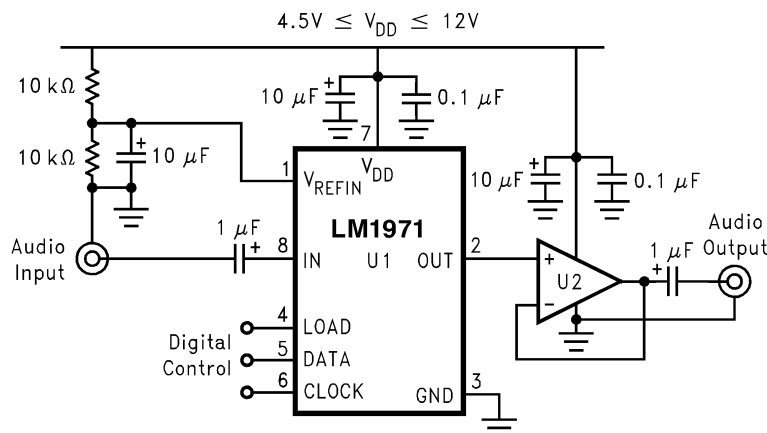
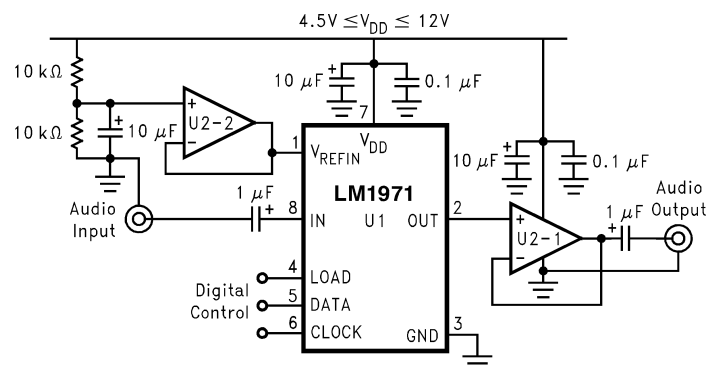

Figure 1. Typical Audio Attenuator Application Circuit
Figure 19. Higher Performance Active Half-Supply Buffering
V_{REF}IN (1): The V_{REF}IN pin provides the reference for the analog input signal. This pin should be biased at half of the supply voltage, V_{DD}, as shown in Figure 1 and Figure 19.
A more stable half-supply node can be obtained by actively buffering the resistor divider network with a voltage follower as shown in Figure 19. Supply fluctuations are then isolated by the high input impedance/low output impedance mismatch associated with effective filtering. Since the LM1971 is a single channel device, using a dual JFET input op amp is optimum for both output buffering and half-supply biasing.